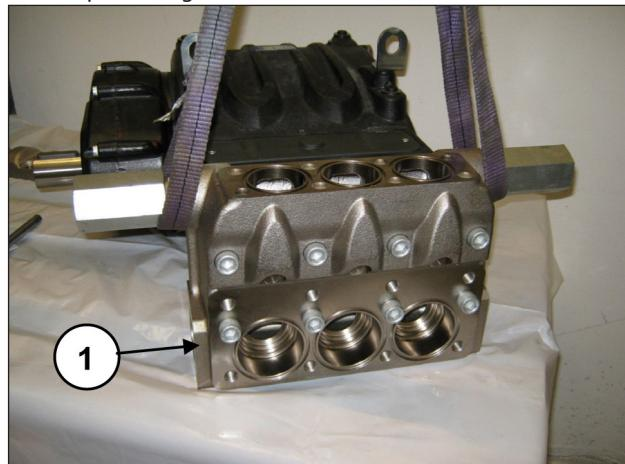
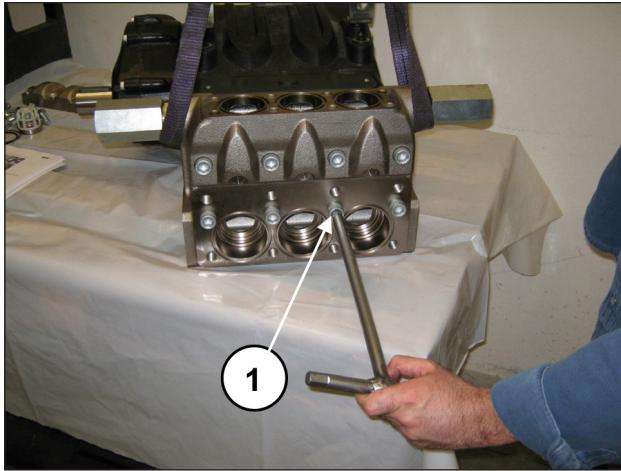

Fig. 164
Fig. 165
Assemble the head on the pump casing (pos. ①, Fig. 164) taking care not to hit the pistons and screw in the 8 M16x150 screws (pos. ①, Fig. 165).